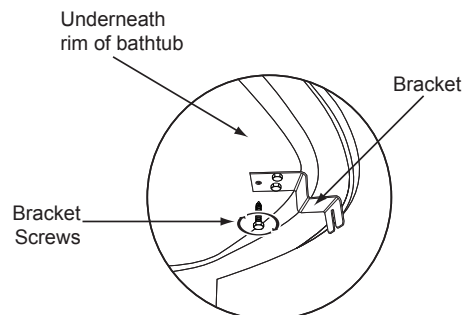

Figure 10
- 2 There are ten mounting brackets underneath the rim of the bath (Figure 10). Align the slots in the 10 brackets with the hex-head screws extending 1/4" from the skirt, then place the bath into position.